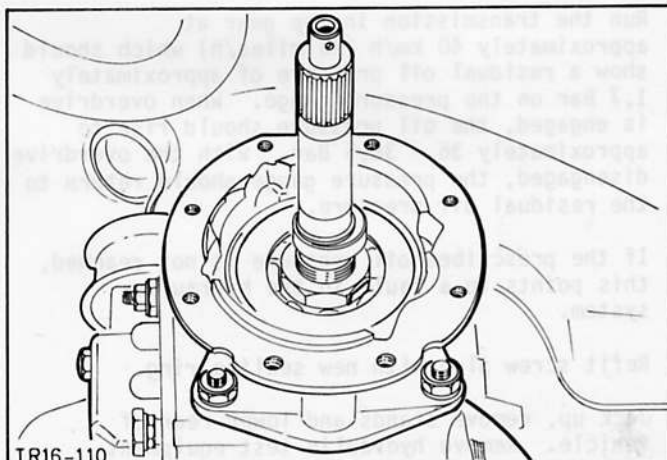

Fig.11. Gearbox with overdrive removed.
9. First loosen overdrive from the adaptor plate with a non-metallic hammer, then lift complete overdrive unit out, Fig.11.